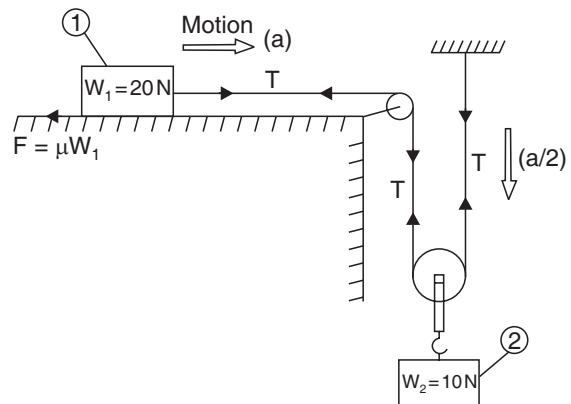

Fig. 8.14
**Example 8.22.** A body '1' of weight  $20 \text{ N}$  is held on a rough horizontal table. An elastic string connected to the body '1' passes over a smooth pulley at the end of the table and then under a second smooth pulley carrying a body '2' of weight  $10 \text{ N}$  as shown in Fig. 8.14. The other end of the string is fixed to a point above the second pulley. When the  $20 \text{ N}$  body is released, it moves with an acceleration of  $g/5$ . Determine the value of co-efficient of friction between the block and the table.